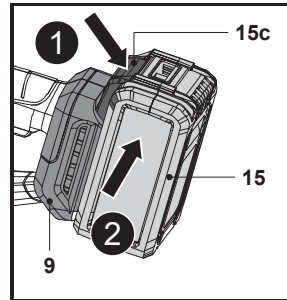

Fig. 3
2. Press the release button (15c) and remove the battery pack (15) from the battery docking port (9) (Fig. 3).